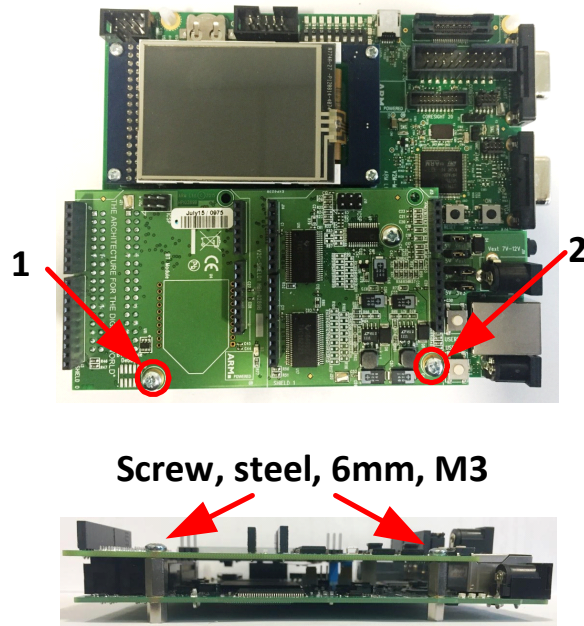

Figure 3-4 Placing Adapter board
4. Place the Adapter for Arduino board on the expansion port of MPS2 Motherboard, and fix it with two screws (Screw, steel, 6mm, M3) (Figure 3-4).